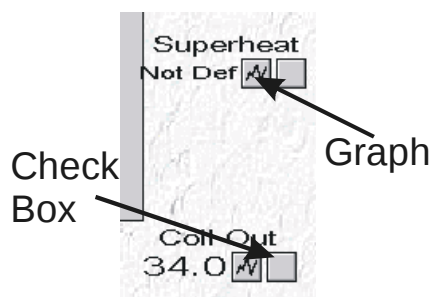

Figure 31 Log Graph Icons and Check Boxes
2. Click on the device's Check Box (see *Figure 31*) located next to the Log Graph Icon. A "check" will appear in the box.